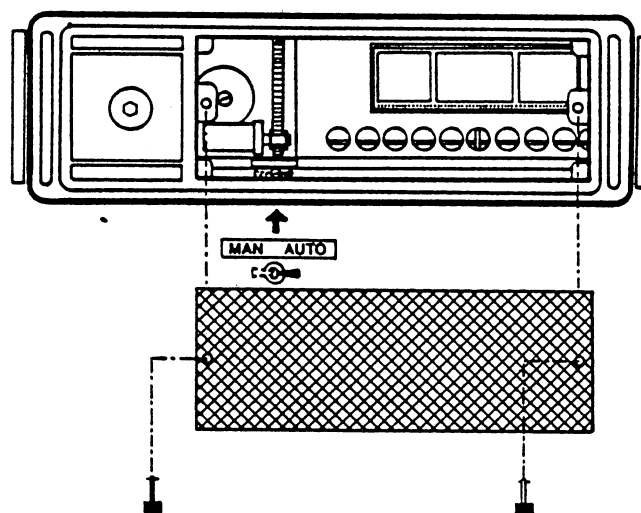

FIG. 5.4
- 1) If the tuner did not start after pressing the "tune" knob it may be due to the fact that the "man/auto" switch on the tuner is in position "man", cf. fig. 5.4.